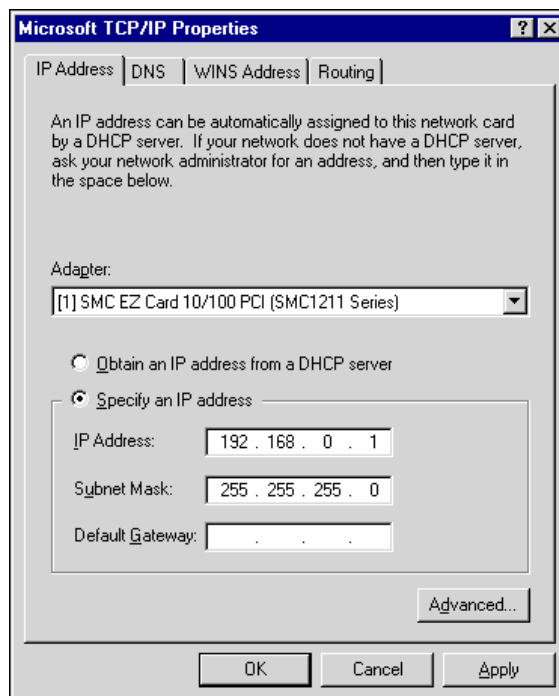

Figure A-3: Microsoft TCP/IP Properties Dialog
1. Highlight **TCP/IP Protocol** in the Protocols tab and click **Properties** to open the Microsoft TCP/IP Properties dialog (FigureA-3):